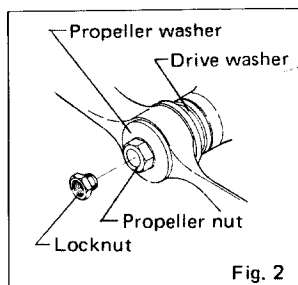

Fig. 2
3. Finally, insert the Safety Propeller Locknut. Tighten Locknut firmly (but not with excessive force) using 12mm wrench. (see Fig. 2)